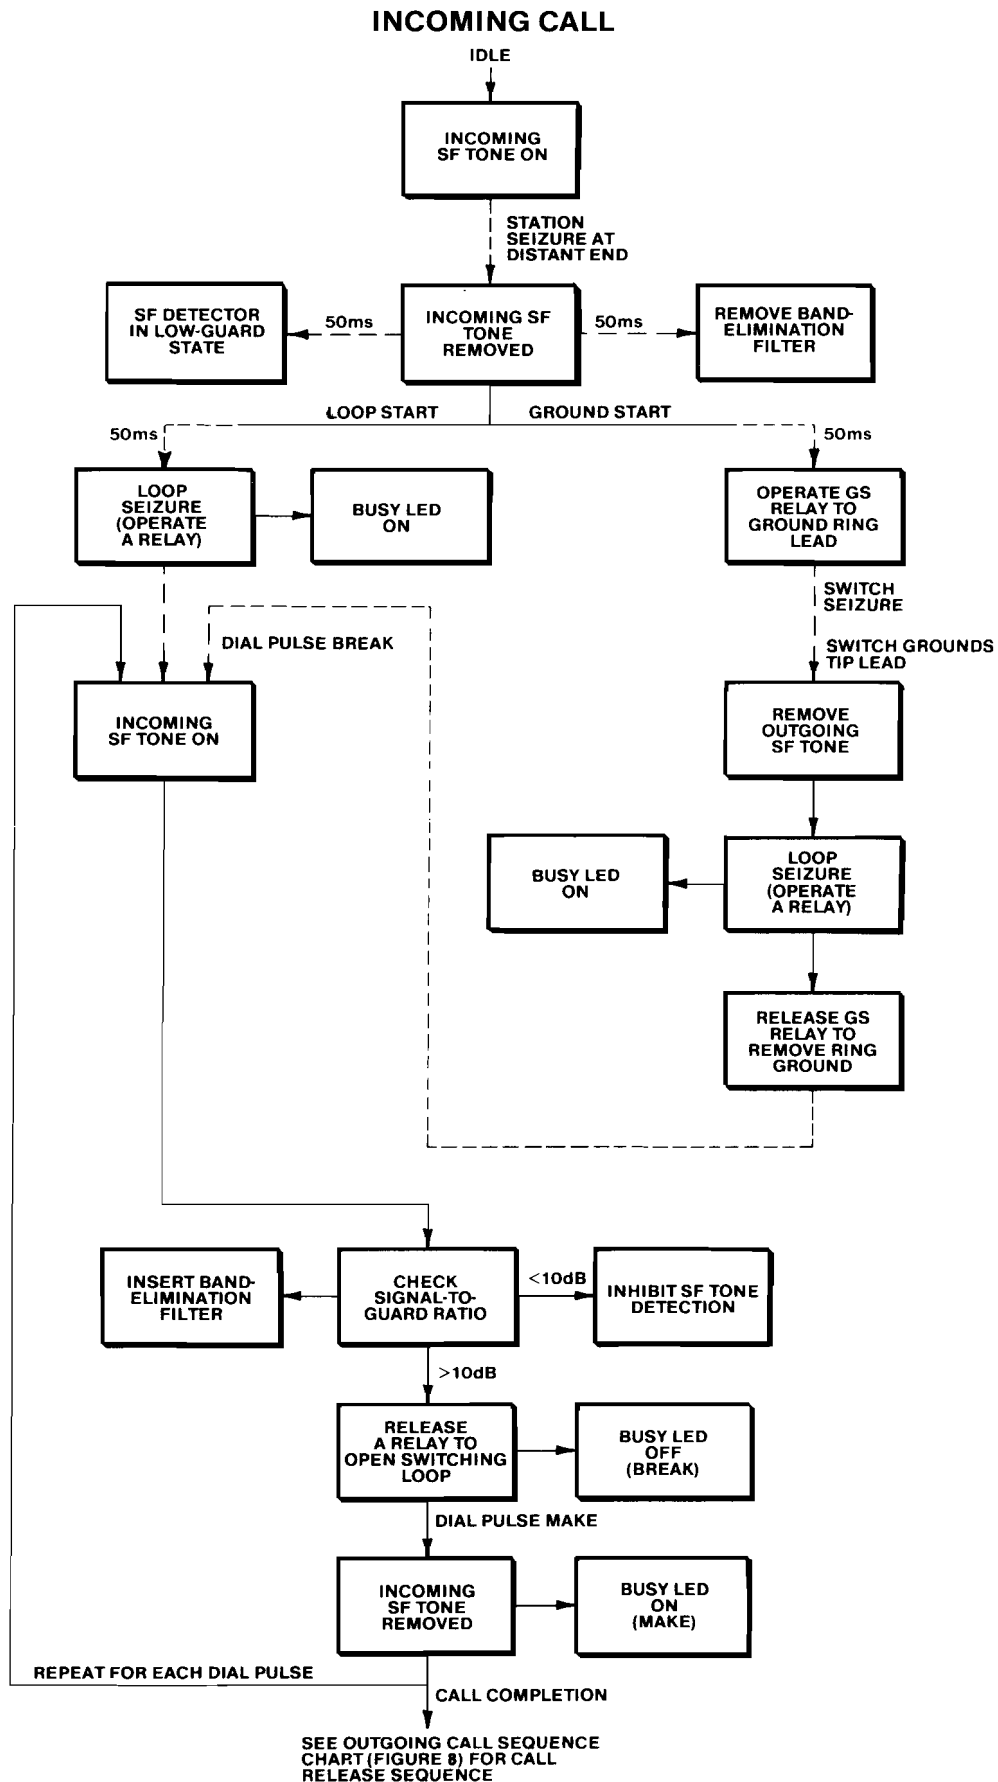

figure 7. Function sequence flowchart, incoming call
4.01 This circuit description is intended to familiarize you with the operation of the 6164X 4Wire-to-2Wire SF-to-FXO Terminal Repeater modules. Attempts to troubleshoot these modules internally are not recommended and may void your warranty. Please refer to the 6164X block diagram, section 5 of this practice, as an aid in following this circuit description. Figures 7 and 8 are function sequence flowcharts that illustrate sequential operation of the 6164X on incoming and outgoing calls. Horizontal paths identify events occurring simultaneously, and vertical paths denote sequential events. Dotted lines indicate elapsed time.